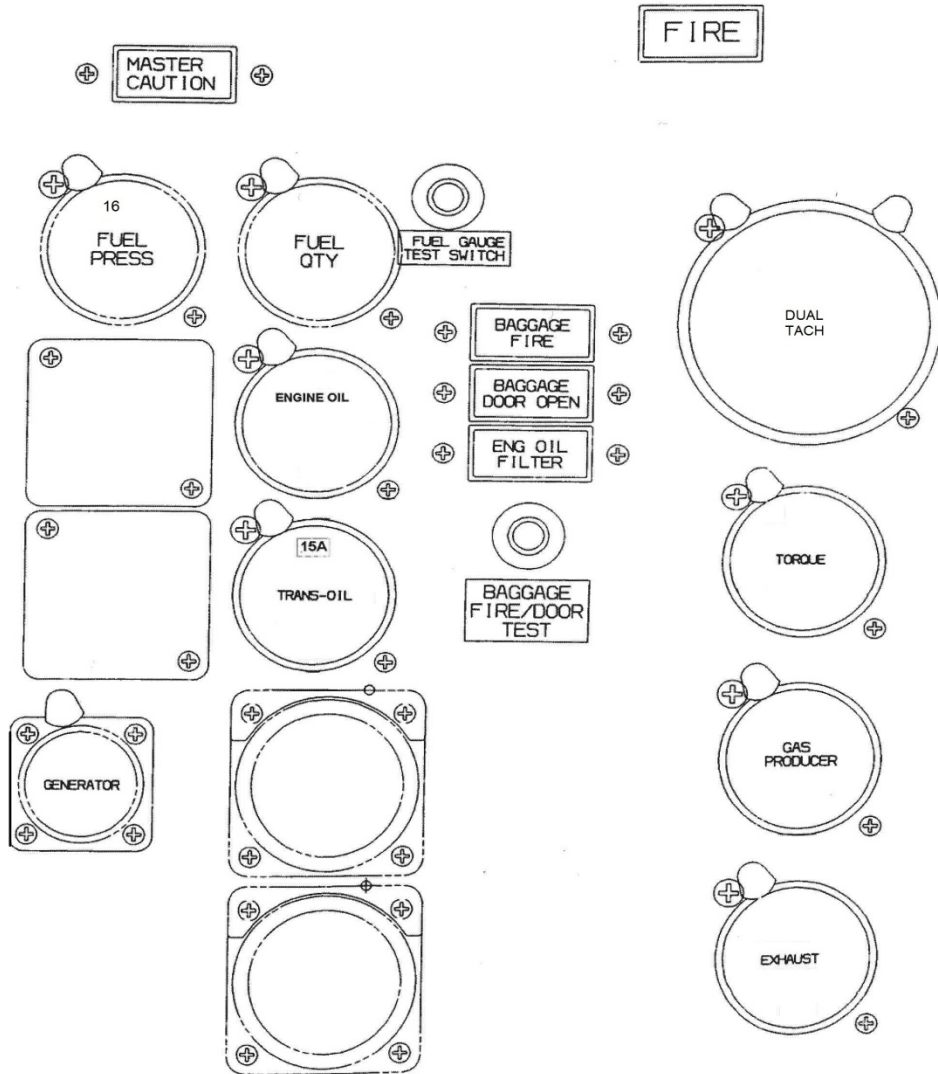
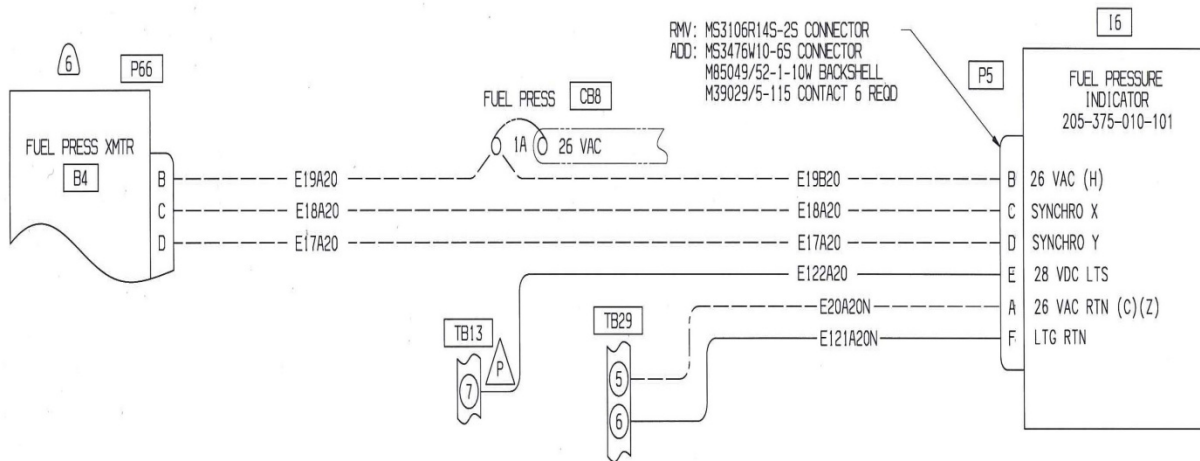

Figure 1
Figure 2
2. Reference Figure 1, gain access to Fuel Pressure Indicator (16) and remove connector (P5).
3. Remove Fuel Pressure Indicator (16) from instrument panel.
4. Reference Figure 2, remove contacts and associated wiring from connector (P5). Discard MS3106R14S-2S connector and backshell.
5. Remove wire number L20M20 from TB13 (2) and discard wire.